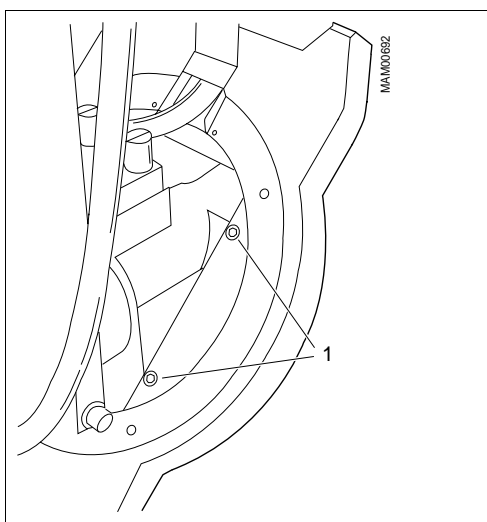

Fig. 3 Position of two of the four screws for the ring
8. Loosen the screws for the ring (1/Fig. 3).